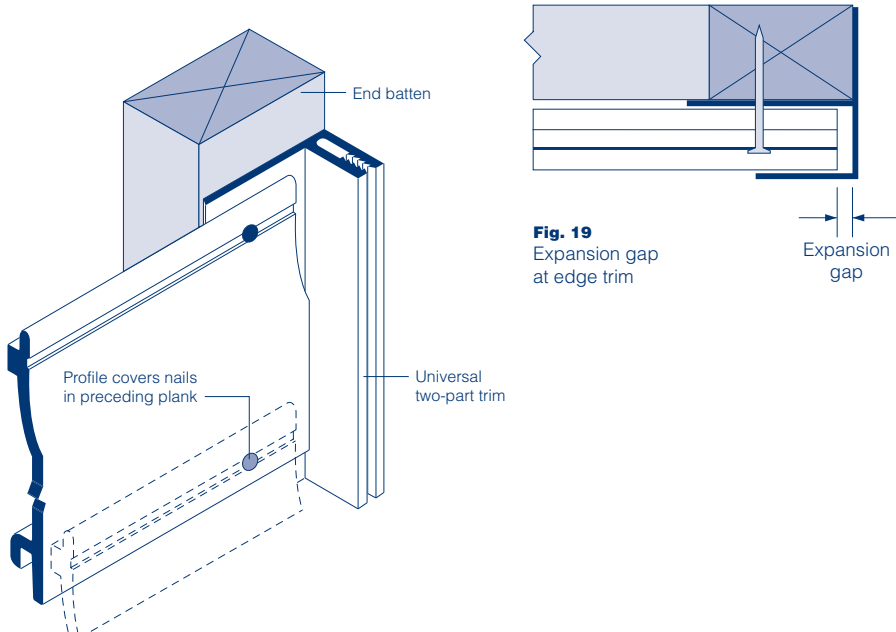

Fig. 18 Secret nailing
- All plank ends must be secret nailed (at their top edge) into the vertical trims. See figure 18.